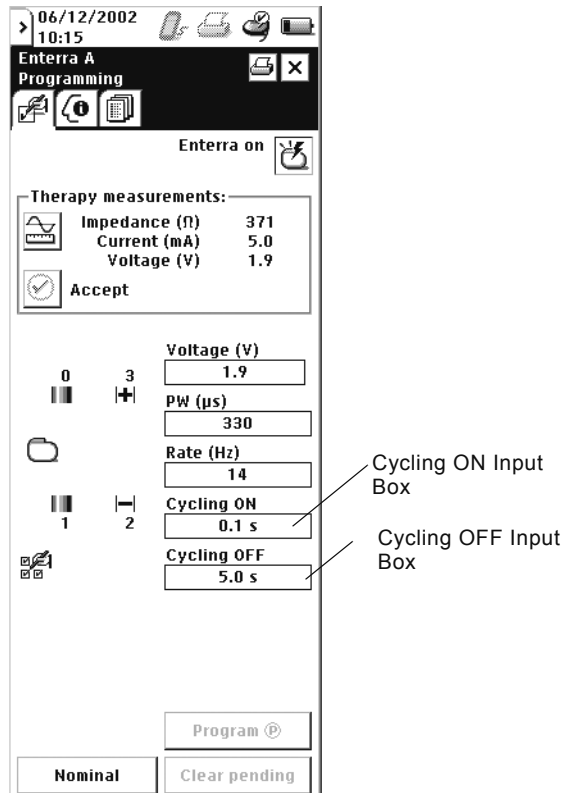

Figure 27. Program cycling time.
1. Using the stylus, touch the Cycling ON input box (Figure 27). A pop-up screen appears.
5. Using the stylus, touch the Cycling OFF input box (Figure 27). A pop-up screen appears.